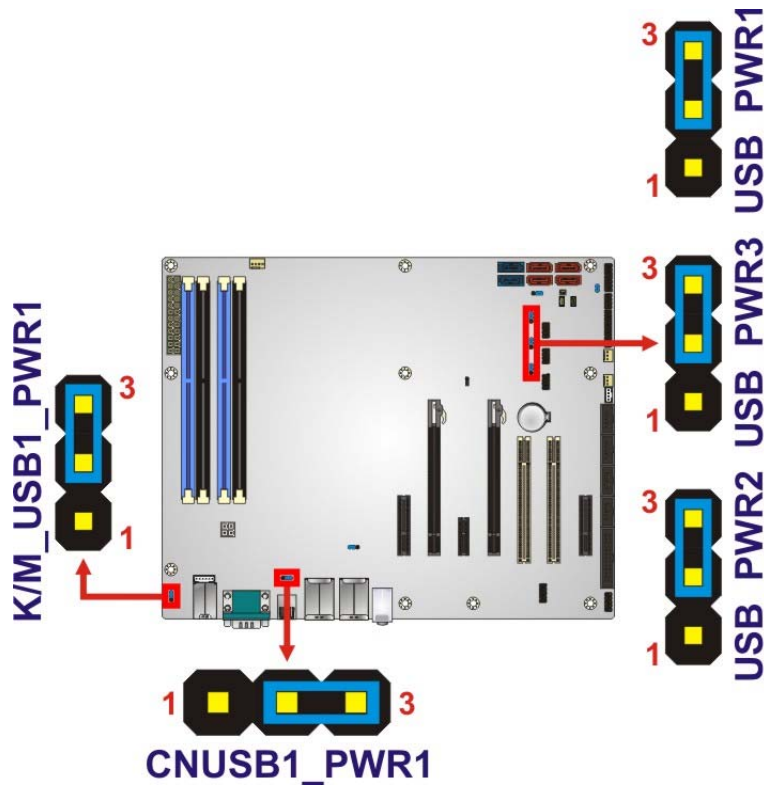

Figure 4-10: USB Power Select Jumper Locations
- Jumper Location:** See Figure 4-10